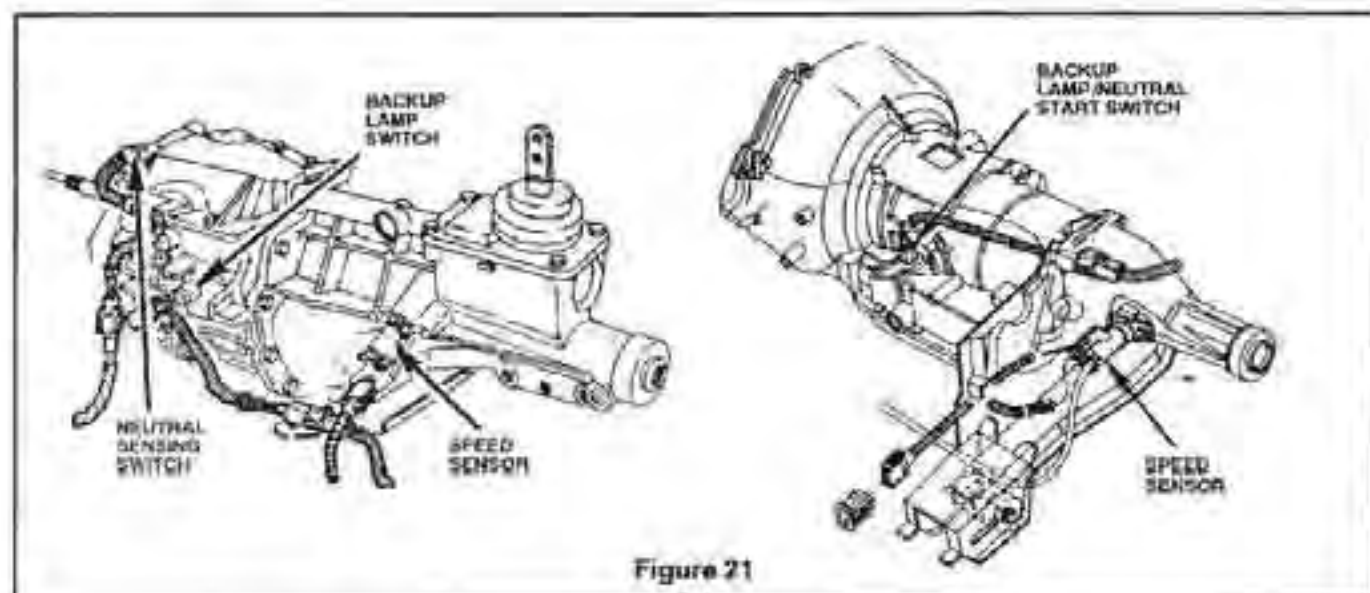

Figure 21
- Green/Purple and the Purple/Yellow connect to the Manual Transmission neutral safety switch (not used with Automatic Transmission). The switch is open when the clutch is disengaged or the transmission is in neutral. The T-5 Manual Transmission has a neutral switch on the top cover. (See Figure 21)